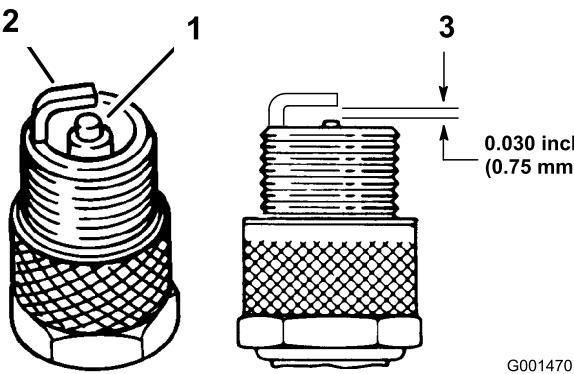

Figure 25
- Look at the center of the spark plugs (Figure 25). If you see light brown or gray on the insulator, the engine is operating properly. A black coating on the insulator usually means that the air cleaner is dirty.
- Check the gap between the center and side electrodes (Figure 25). Bend the side electrode (Figure 25) if the gap is not correct.
- Connect the wires to the spark plugs (Figure 25).